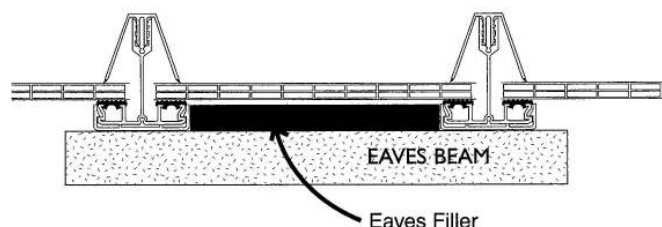

Fig.4A
Step 4: Fit the eaves filler (ref. P285F), if used, at the eaves of the structure. This fills the gap between the underside of the sheet and the top of the support structure (Fig.4A). If other materials are being used as a wall plate and/or eaves beam, please use barrier tape to avoid electrolyte corrosion between the P600 glazing bar and the wall plate/eaves beam.